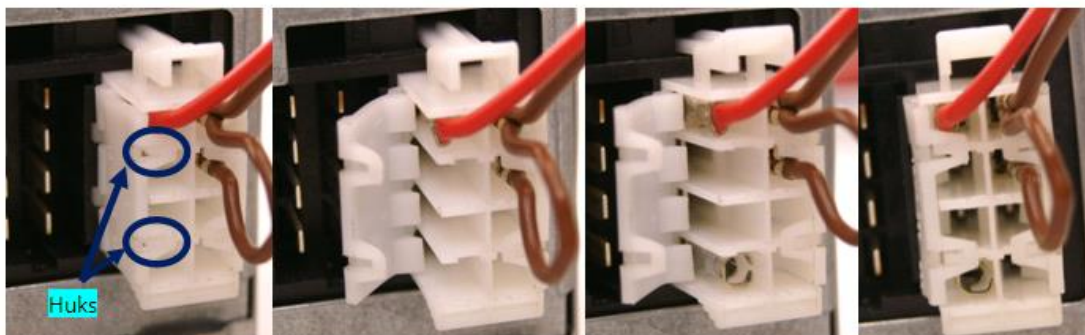

Figure 64 Adding contact on tachograph connector
- Tachograph mounted on vehicles does not have D8 contact. In order to add it, you have to undo the hooks and add the contacts (Figure 64). Contact code in Farnell system: 925596-1.